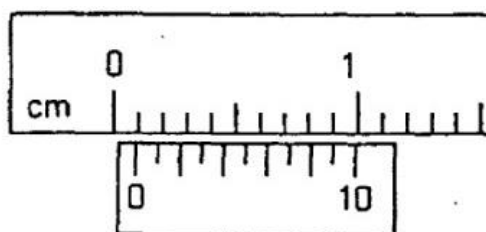

Figure 6
- Note the last visible reading in mm on linear scale, it will be **main scale reading**. In fig. 6 the main scale reading is 7.5 mm.
- Now note a division on circular scale which coincides with the index line of the main scale. Now multiply this division with the least count. It will be **circular scale reading**. In fig. 6,